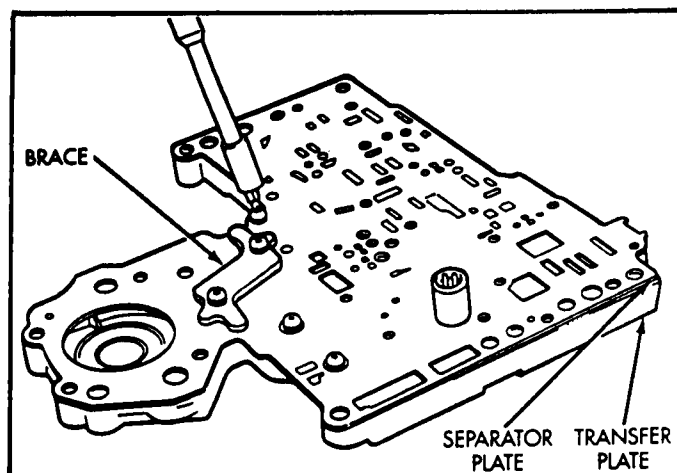

Figure 96
4. Align and position the spacer plate on transfer plate as shown in Figure 96.
5. Install the tension plate with screws and the 3 remaining spacer plate attaching screws, as shown in Figure 96.